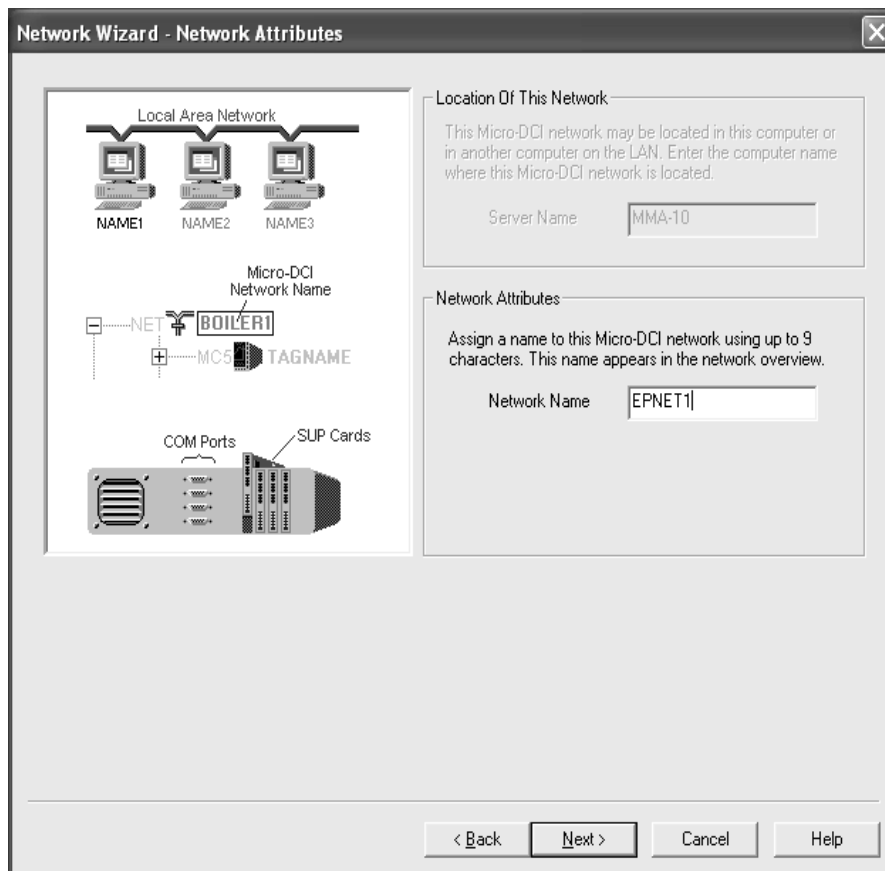

Figure 3-2. Network Attributes Window
4. On the *Network Wizard* window, click on the **E-Port** radio button, then click **Next**. The *Network Attributes* window (Figure 3-2) is displayed.